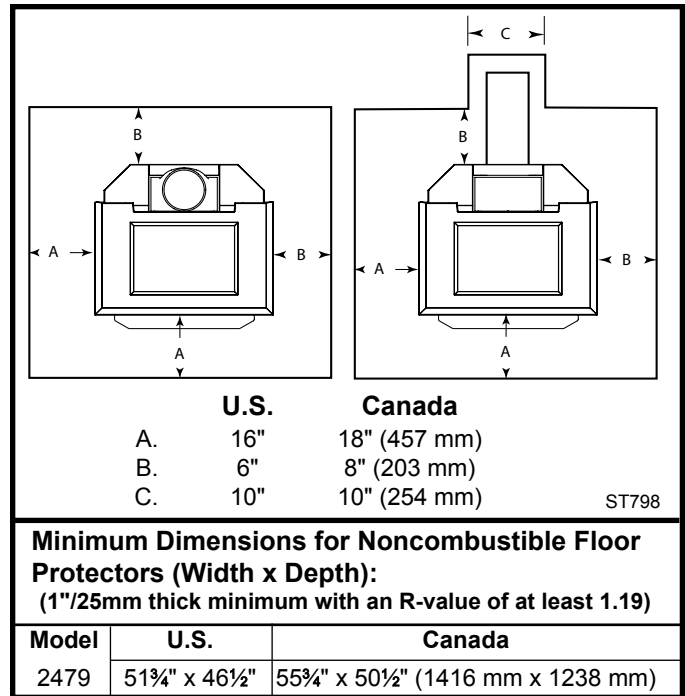

Fig. 12 Be sure to follow exactly the minimum floor protection requirements on all four sides of the stove.
U.S. Installations: The floor protector is required under the stove and must extend at least 16" from the front and left (loading door) side of the stove, and at least 6" from the right side and rear. (Fig. 12)
In Canada: a noncombustible floor protector is required under the heater also. The floor protector must extend 18" (457mm) from the front and left (loading door) side of the stove, and at least 8" (203 mm) from the right side and rear. (Fig. 12)